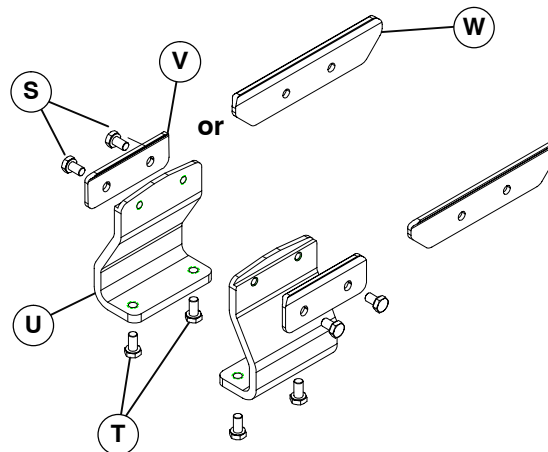

Figure 9
NOTE: Conveyor may be mounted using mounting brackets as shown in Figures 9 and 10 or directly to support stands. For direct support stand mounting, see stand manual.
1. Typical mounting bracket components (Figure 9).
2. Attach clamp plate (V or W of Figure 9) to stand/conveyor ear mount bracket (U) with two screws (S). Do not tighten screws.